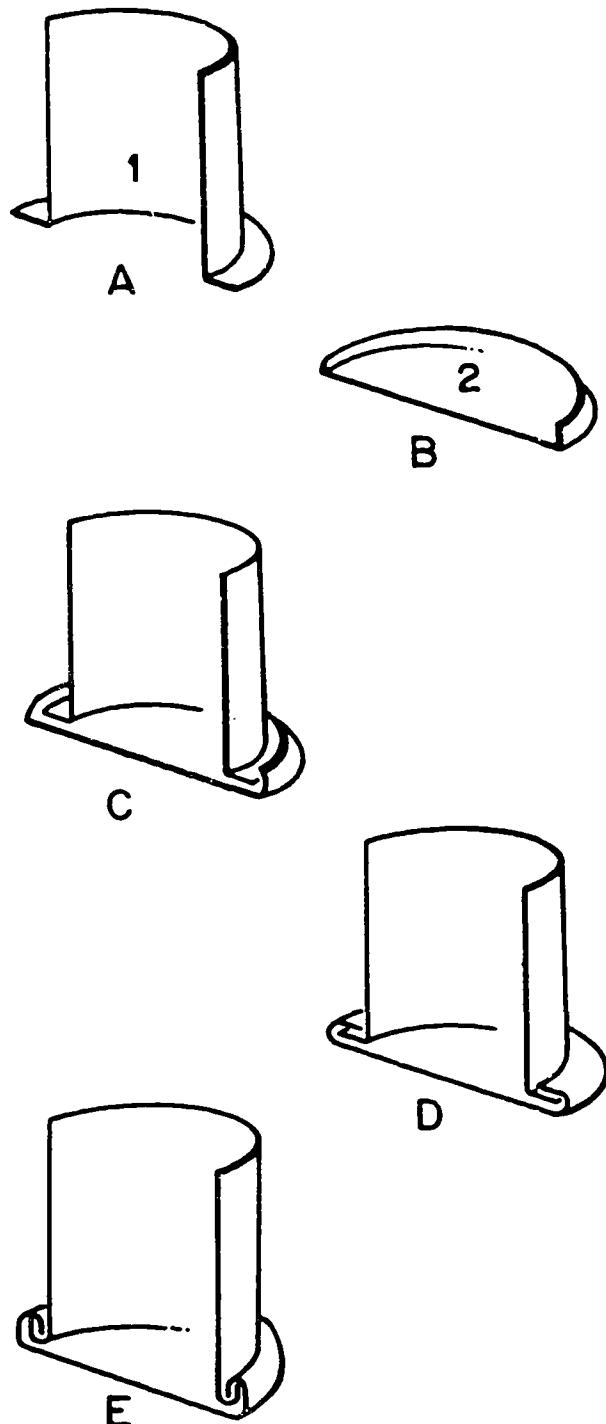

Figure 2-8. Making a bottom double seam for cylindrically shaped articles.
**Bottom double seam.** A bottom double seam, like the one shown in figure 2-8, is used to fasten a bottom or end on a cylinder. The illustration shows cutaway views so that you can see the shape of the seam as it is made. As we have already mentioned, the seam allowance for a bottom double seam is three times the width of the seam plus twice the metal thickness.
Now let's see how the 1/4-inch bottom double seam shown in figure 2-8 is made. The cylinder is identified as piece 1 in step A, and the bottom is identified as piece 2 in step B. These two pieces are the starting parts for the seam. Using the formula  $3W + 2T$ , the seam allowance is 1/4 inch for piece 1. Piece 2 is  $1/2 + 1/16$  or  $9/16$  inch. You use a burring machine, which you studied in Volume 2, to turn 1/4 inch 90° flanges on both pieces. In step C, you place the bottom on the cylinder. In step D, you turn down the flanged edge of piece 2 with a tinner's setting hammer or mallet. You can further tighten this edge with a setting down machine. To complete the seam, as shown in step E, use a mallet and double seaming stake. The bottom double seam is now complete, unless you must make it liquid-tight by soldering.
**Dovetail Seam.** A dovetail seam, illustrated in figure 2-8, is often used to connect cylinder-shaped ducts or pipes to flat surfaces, such as the base of a roof jack. View A in the illustration shows how 1/2-inch square tabs have been cut and every other one bent down 90° with a tinner's hammer and bench stake. This bending operation can also be performed with a pair of common pliers. A hole the size of the cylinder is cut in the flat piece of metal that is to be the base. The base is then placed over the cylinder, as shown in view B. The remaining tabs are bent 90°. As this row of tabs is turned down, the blows from the hammer cause both rows of tabs to tighten against the flat base.